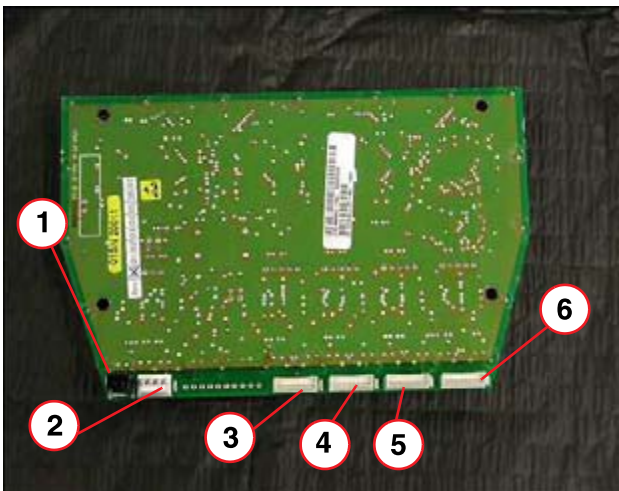

Fig. 21: D814
- Loosen connectors X833, X834, X 835, X836 and X838 (Fig. 21 / p. 44).
- Plug connectors X833, X834, X835, X836 and X838 on D814 (Fig. 21 / p. 44).